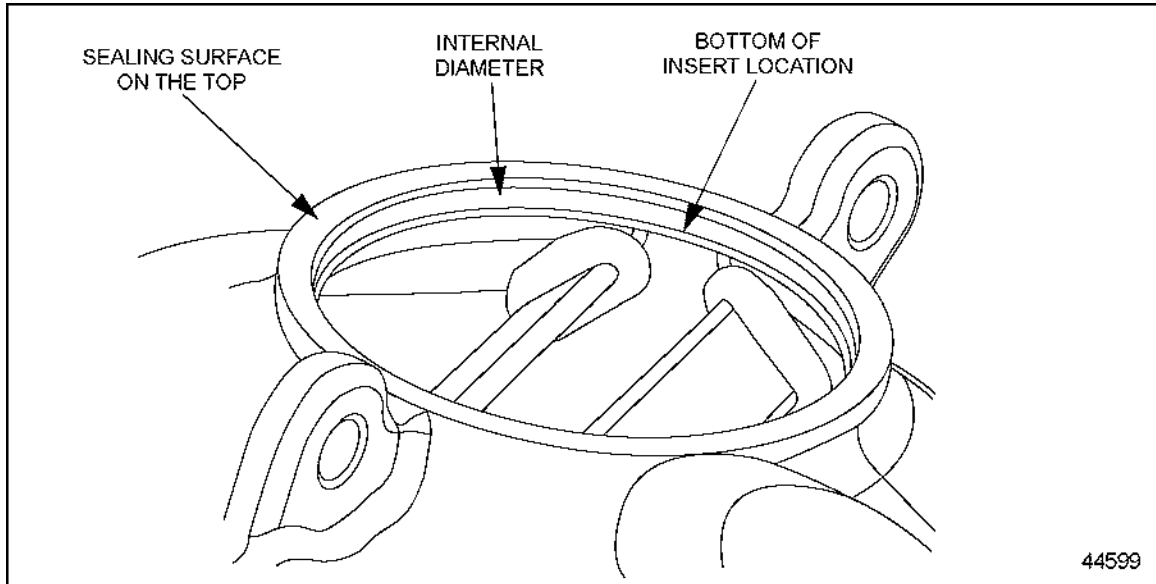

Figure 5 EGR Cooler Spherical Insert
3. Clean the sealing surface on the top, bottom, and internal diameter of the insert location. See Figure 5.